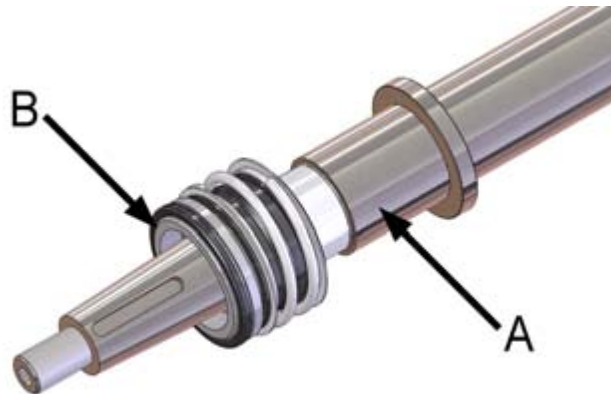

Figure 14. Installing the mechanical seal
Be careful not to damage the slip-ring (figure 14, point B) during installation. If the seal is pressed into its place in a slanted position, and the slip-ring can scratch the surface of the shaft, the slip-ring may be damaged.
- 1.3. Lubricate the surface of the shaft where the rubber bellows rest (figure 14, point A).